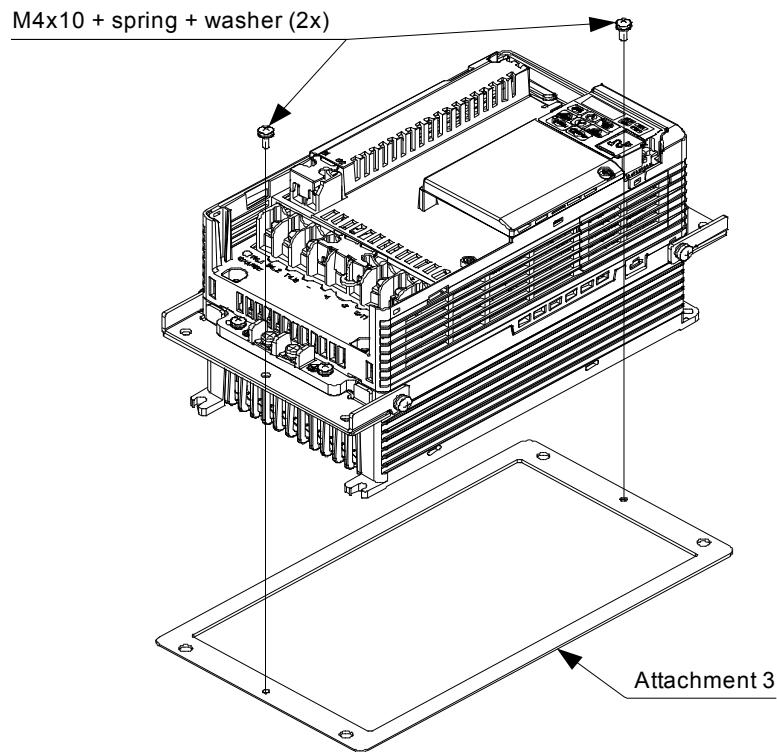

Figure 14: Installation - Step 4
4. Mount *Attachment 3* below the inverter like shown in Figure 14. Use the screw holes in *Attachments 1* and 2 and M4x10 screws with spring and washer.